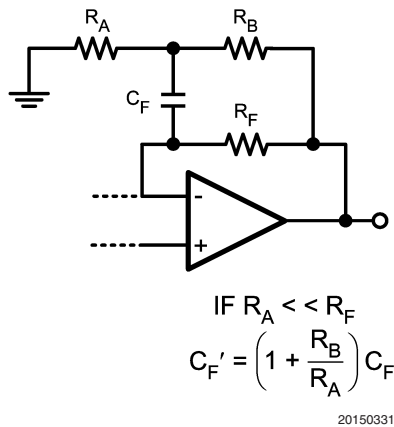

FIGURE 7. Modified Transimpedance Amplifier
Calculating  $C_F$  from Equation (3) can sometimes result in capacitor values which are less than 2 pF. This is especially the case for high speed applications. In these instances, it's often more practical to use the circuit shown in Figure 7 in order to allow more sensible choices for  $C_F$ . The new feedback capacitor,  $C'_F$ , is  $(1 + R_B/R_A) C_F$ . This relationship holds as long as  $R_A \ll R_F$ .